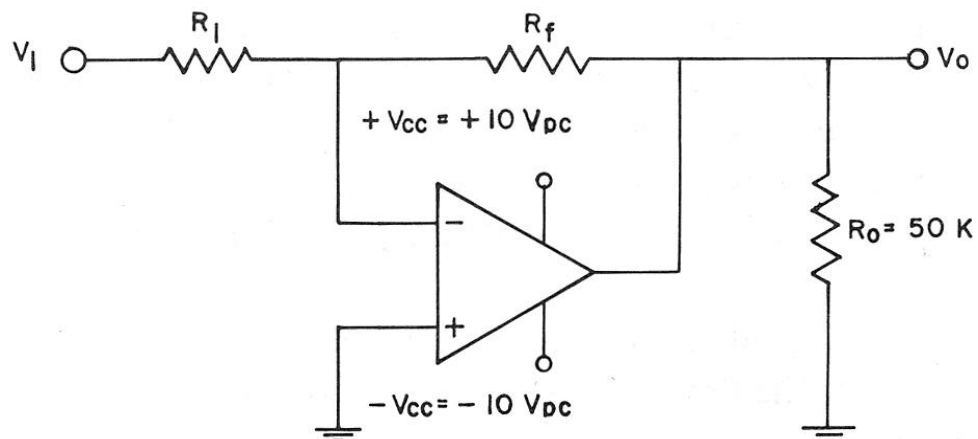

Figure 2-30.
6. Construct the circuit of Figure 2-30 with $R_1 = 10\text{ k}$ and $R_f =$ a decade box.* Draw the schematic and label the pin numbers on the op-amp.